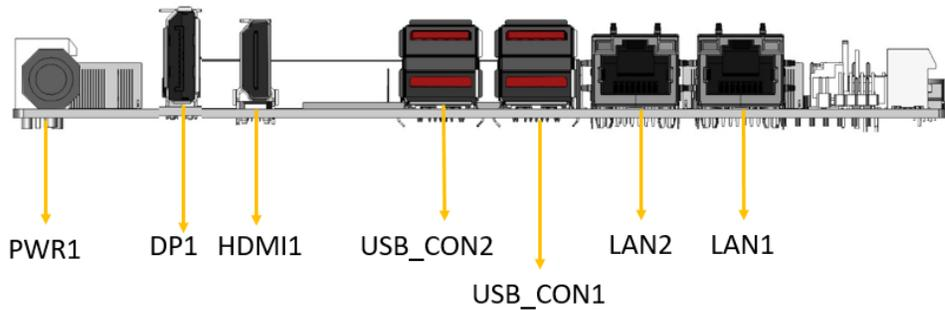

Figure 3-26: External Peripheral Interface Connector
Figure 3-26 shows the KINO-TGL-U external peripheral interface connector (EPIC) panel. The EPIC panel consists of the following:
- CN Location:** See Figure 3-26
CN Location:	See Figure 3-26
- CN Location:** See **Figure 3-26**
CN Location: See **Figure 3-26**